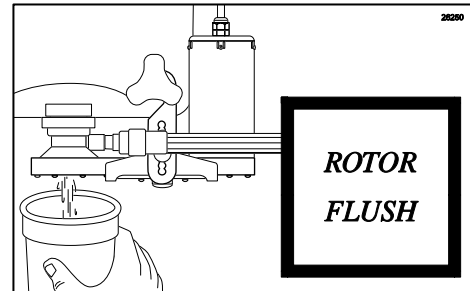

Figure 105
5. With a container under each Injector Head, press the ROTOR FLUSH key until the sanitizer solution is removed from the sanitizer solution line. (See Figure 105.)